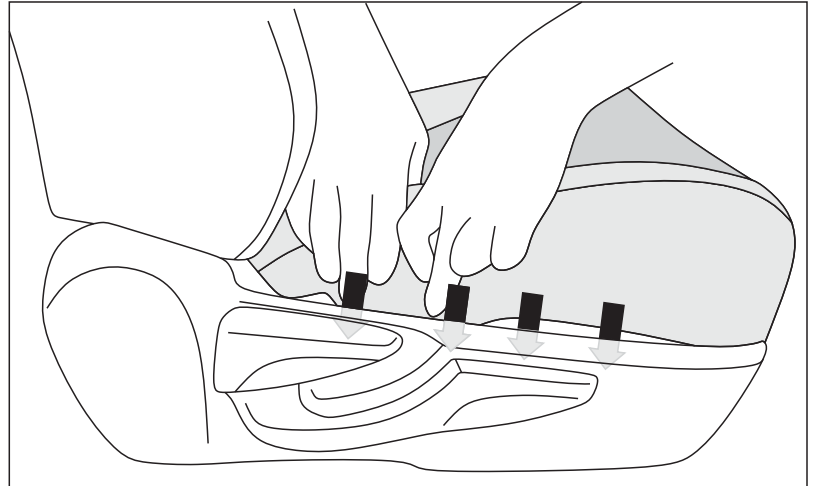

Fig.6
6. Where possible, tuck the sides of the base cover in-between the seat base and plastic trimming surrounding the base. If your seat cover has any soft loop or hard hook tapes, ensure you also push these through as well and attach them together under the seat (Fig.6).